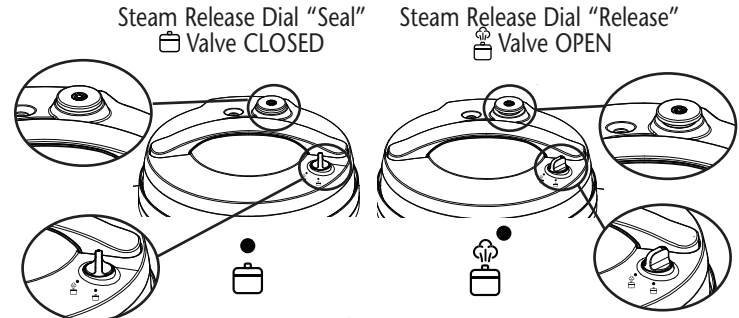

Figure 5
A. **Natural Pressure Release Method:** After cooking cycle is complete, let Cooker naturally release pressure through the Bobber Valve. Unit will gradually cool down on its own. Wait at least 10 minutes after cooking has completed, and then rotate the Steam Release Dial to the “Release” position (see Figure 5). Do not place any part of your hand or body over the Steam Release Valve, as steam is very hot and can scald skin. The pressure has been released when steam is no longer escaping from the valve, the Bobber Valve has dropped completely, and the Lid opens freely with minimal force. This can take up to 10-20 minutes. Never force the Lid open.
B. **Quick Pressure Release Method:** Rotate the Steam Release Dial located at the front of the Lid to the “Release” position (see Figure 5). Steam will release rapidly from the Steam Release Valve on the back of the Lid. Do not place any part of your hand or body on or over the Steam Release Valve, as steam is very hot and can scald skin.